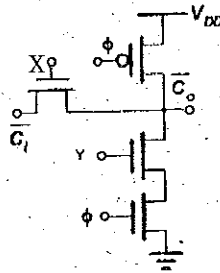

Fig. 2
7. The circuit in Fig.2 shows a carry propagation path in an adder circuit. Let A, B, C_i are the inputs to adder circuit and ϕ is the clock signal. Write the logic expressions for the signal X, Y to generate output carry.